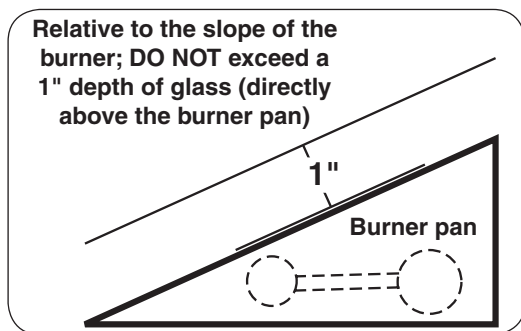

Fig. 17-4
1. Pour the glass / gems directly on top of the sand/vermiculite and screen so that the burner pan is covered completely and evenly. Relative to the slope of the burner; DO NOT exceed a 1" depth of glass (directly above the burner pan) as shown in Fig. 17-4.